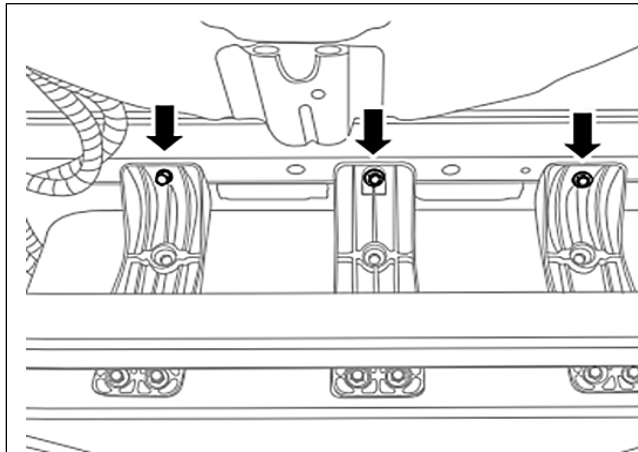

Fig 3.20: Remove the 3 rear mounting bracket fixing bolts
14. Remove the 3 rear mounting bracket fixing bolts of the power battery pack as shown in Fig. 3.20.